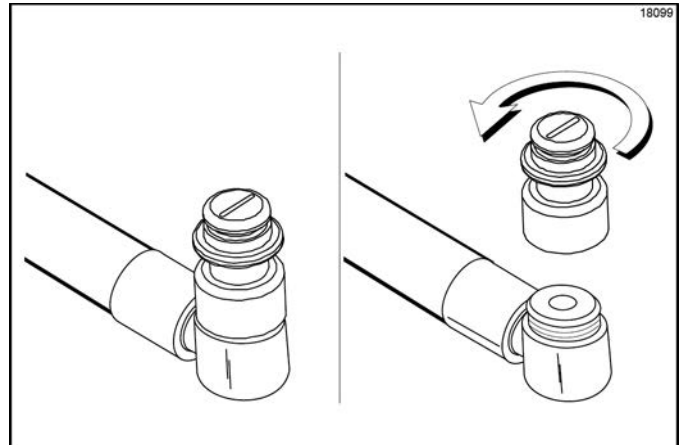

Figure 6-78
- With the pail still beneath the door, remove the syrup nose fitting from the syrup line fitting by turning it counterclockwise. Hold the syrup fittings in an up position to minimize syrup loss. (See Figure 6-78.)